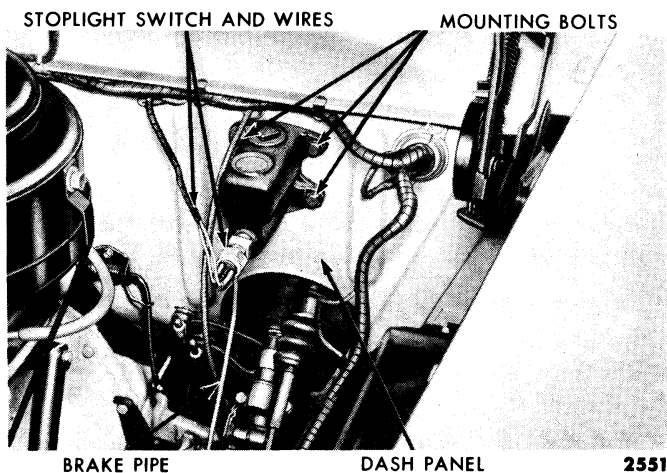

Fig. 6—Typical Master Cylinder Installation
The master cylinder (fig. 6) is mounted on the dash panel in the engine compartment. The function of the master cylinder is to maintain a constant volume of brake fluid in the system at all times, and to convert physical pressure on the brake pedal to hydraulic pressure on the wheel cylinder pistons.
(1) **REMOVAL.** Disconnect the wires at the stop light switch, then remove the stop light switch. Disconnect the brake line (fig. 6) from the master cylinder, and depress the brake pedal a few times to force all the fluid from the master cylinder. Remove the eccentric bolt which attaches the master cylinder push rod to the brake pedal. Remove the master cylinder from the dash panel.
(4) **INSTALLATION.** Install the master cylinder on the dash panel (fig. 6). Tighten the screws to 12-18 foot-pounds torque. Position the master cylinder push rod on the brake pedal, then install the eccentric bolt and bushings. Adjust the brake pedal free travel, then tighten the bolt to 25-30 foot-pounds torque. Install the stop light switch, then connect the stop light switch wires to the switch terminals. Connect the brake line